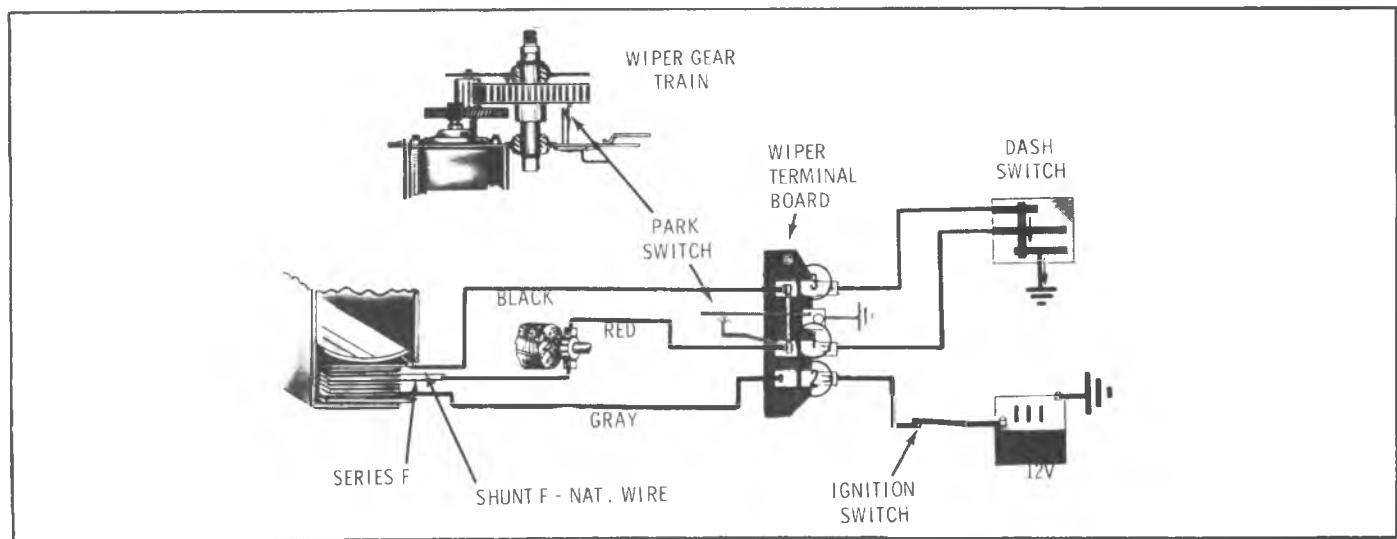

Fig. 37-LO Speed Circuit
Turning the wiper switch to the LO speed position completes the circuits from the wiper terminals 1 and 3 to ground. Current then flows from the battery via wiper terminal No. 2 through the series field and divides; (1) part passes through the armature to ground via wiper terminal No. 1 to the wiper switch and (2) the second part passes through the shunt field to ground through wiper terminal No. 3 to the wiper switch (fig. 37).